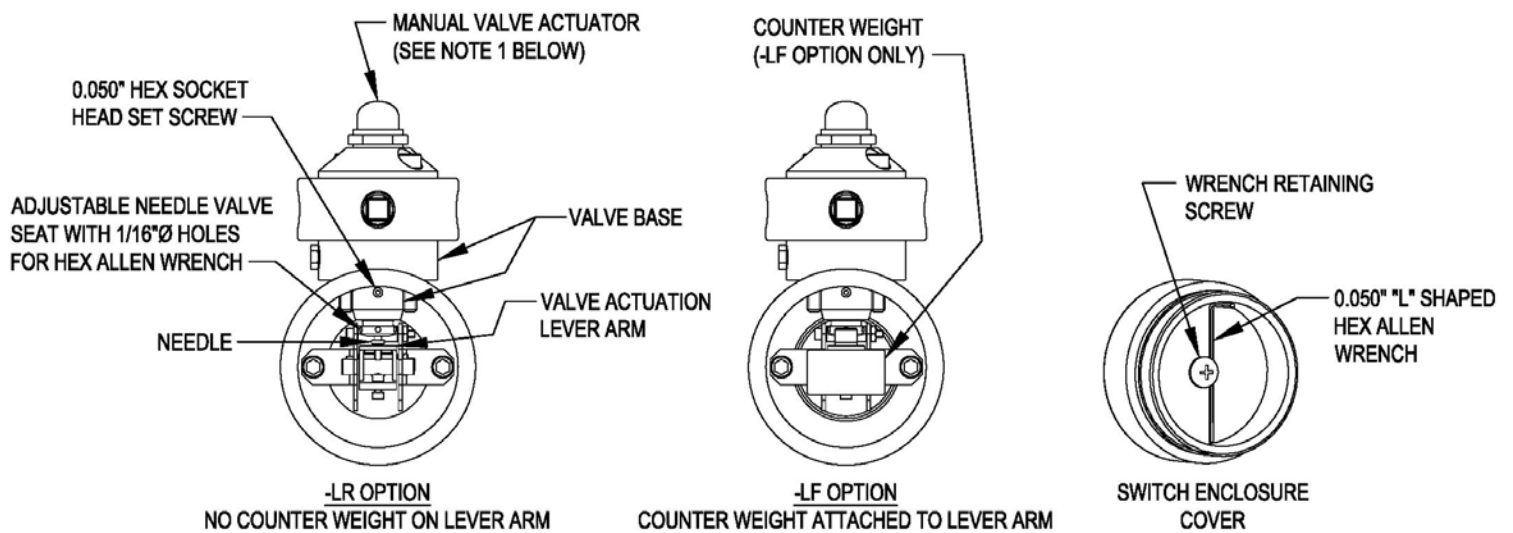

Figure 5
- Make sure the Switch Float is in the “Valve Closed” position. On the KPFS-LR model, the Switch Float will need to be in the down position. On the KPFS-LF model, the Switch Float will need to be in the up position. You will know which model you have by the model number on the Switch Enclosure Cover name tag. In addition to this, the KPFS-LF has a counter weight attached to the Lever Arm and the KPFS-LR does not. See illustrations in Figure 5.